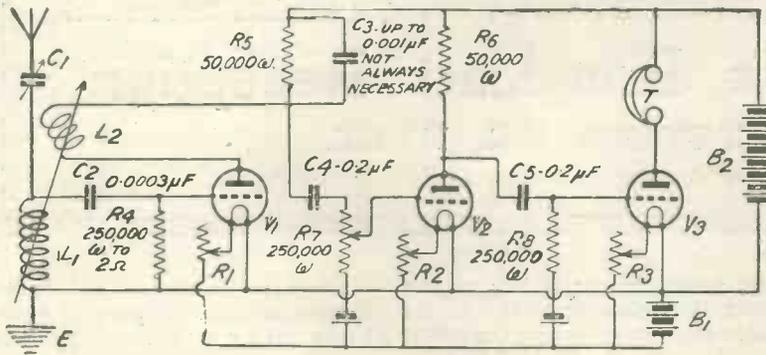
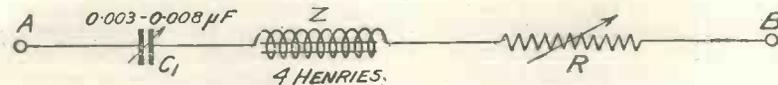

Fig. 2.—A distortionless circuit with valve rectifier.
Fig. 8.—A good combination for most telephones.
Do not exaggerate the reaction; this is a well-known way to distort. I personally like to have an easy adjustment of strength which is warranted not to alter quality, and Fig. 2 shows how I put in a
A good combination for most telephones is shown in Fig. 8, and this combination is connected across one of the resistances in the L.F. resistance amplifier (e.g., R_5 in Fig. 2). You will find quite early about the best position for the condenser (I use an old Marconi 0.01 μF ebonite variable condenser), which should be adjusted first with R at zero, as there is a peculiar place where speech changes over from muffled to nasal through an intermediate position which is the correct one.
3. A middle-weakener (the Fig. 8 combination without the resistance R).